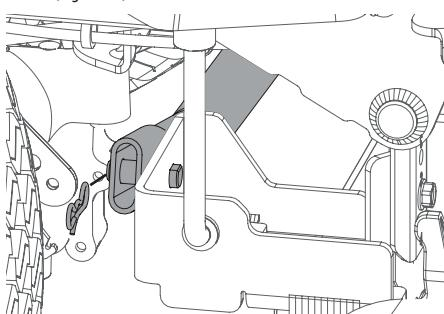

Figure 44
- a. Remove the bow-tie cotter pin on the right side of the bar, connecting the bar with the bracket on the deck (Figure 44).